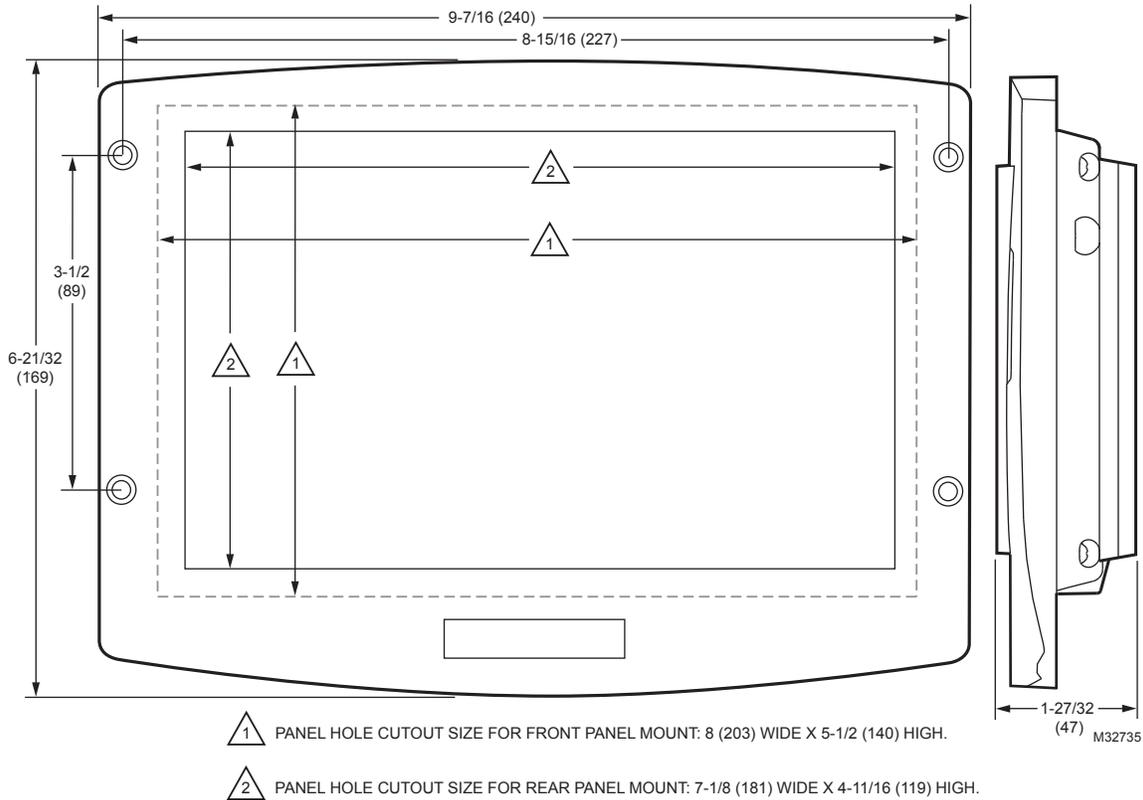

Fig. 1. Display dimensions in inches (mm).
Dimension: See Fig. 1
2. Provide an opening in the panel door 8" wide X 5 1/2" high (for front panel mount) or 7 1/8" wide X 4 11/16" high (for rear panel mount). See Fig. 1 or use cutout templates provided in Fig. 96 and Fig. 97.